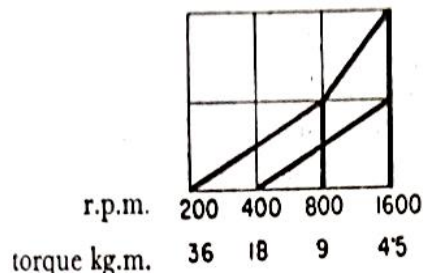

Fig. 1
- Q2 The optimum ray diagram for a 4-speed gear box for transmitting 10 HP is given in Fig. 1. Calculate the number of teeth in all gears of the gearbox. [5]